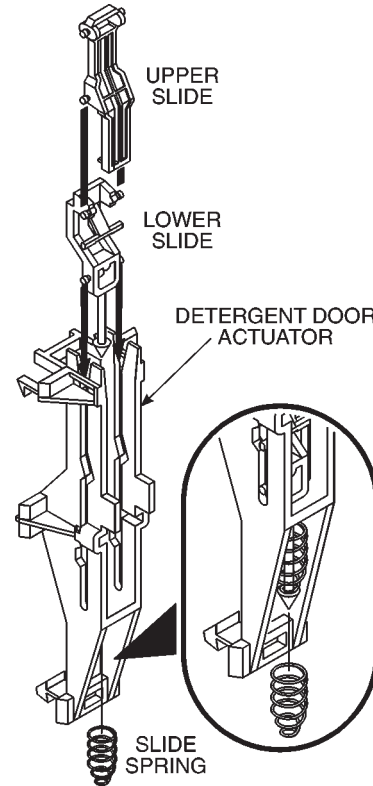

Fig. 1-32
11. Remove the upper slide, the slide spring and the lower slide. (Fig. 1-32)
1. Assemble the upper slide, slide spring and lower slide to the detergent door actuator. (*Fig. 1-32*)